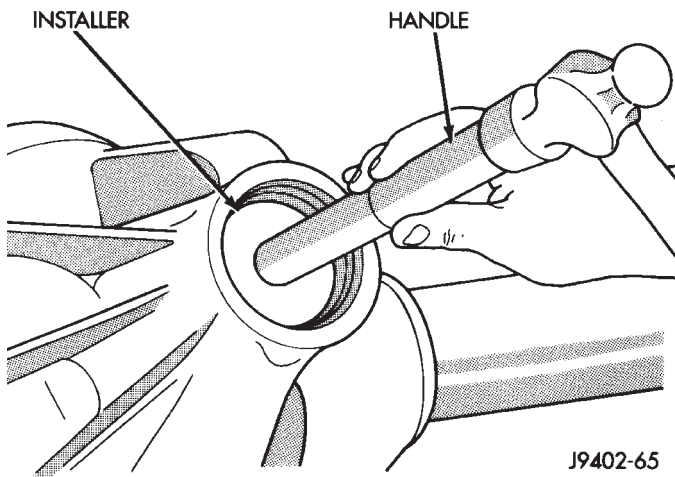

Fig. 30 Pinion Front Bearing Cup Installation
(2) Install the pinion front bearing cup with Installer D-130 and Handle C-4171 (Fig. 30).